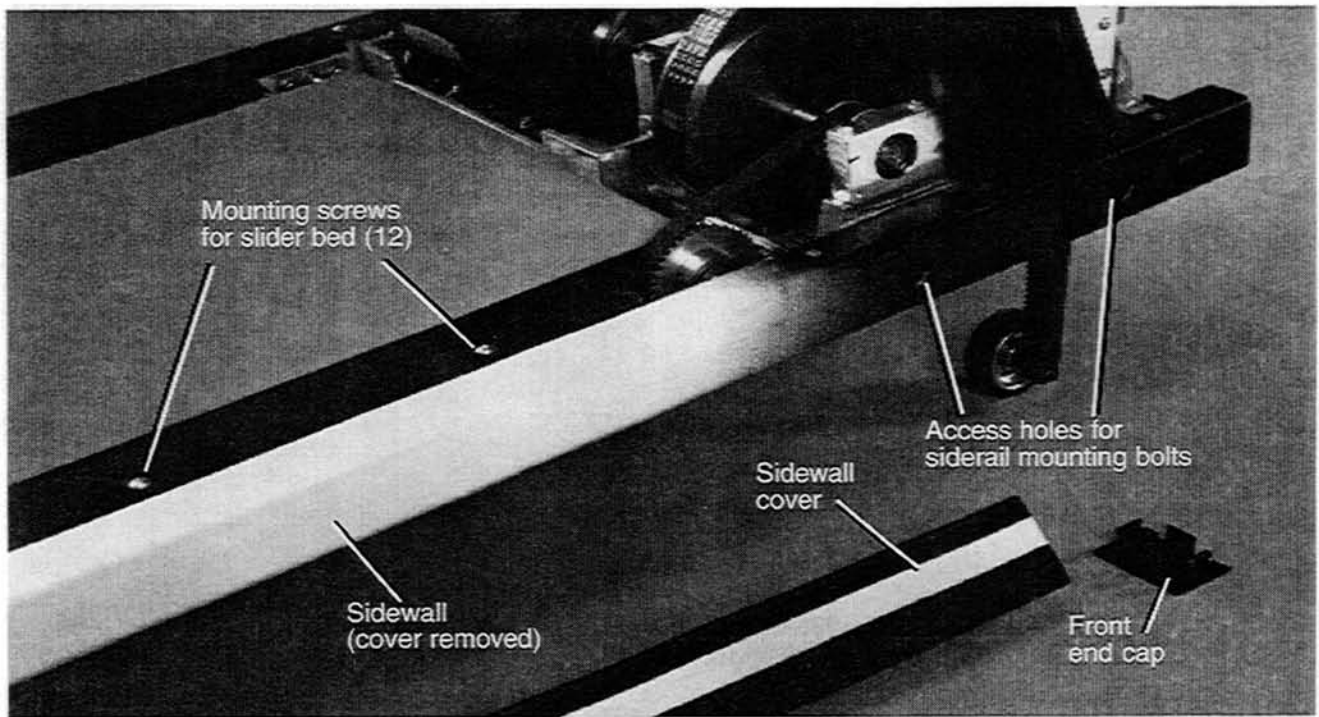

Figure 3-21. Siderail Bolt Access Holes
3. Use a 9/16" socket wrench with a 6" extension to loosen the four hex-head bolts which fasten the siderails to the headframe (Figure 3-21 on page 3-13). Access the bolts through holes in the siderail, *but do not remove the bolts.*